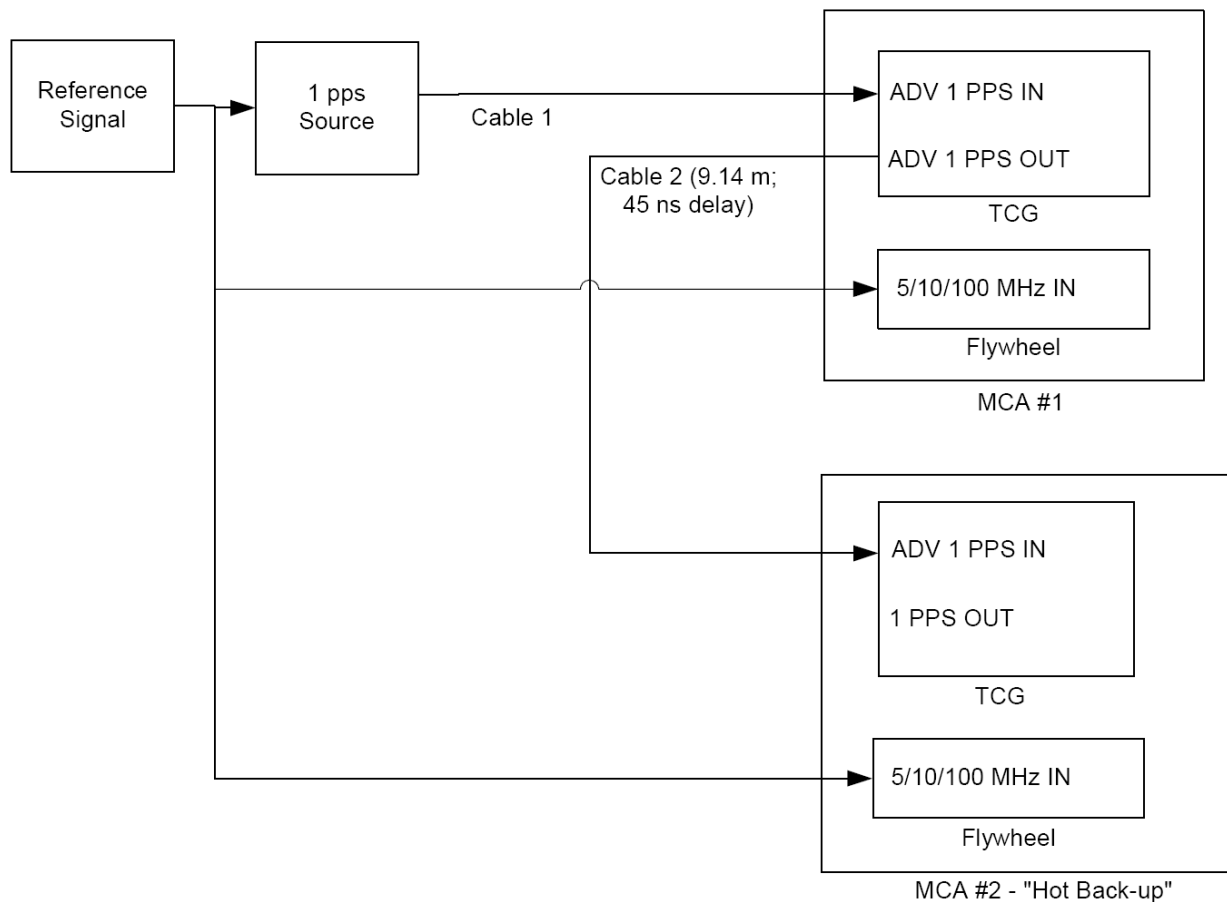

Figure 19: Connection configuration for synchronizing and monitoring two MCAs
Figure 19 shows the connections needed to synchronize and monitor two MCAs.
- This is Cable 1 in Figure 19. The cable must be the same length used to set up the MCA.
- This is Cable 2 in Figure 19.